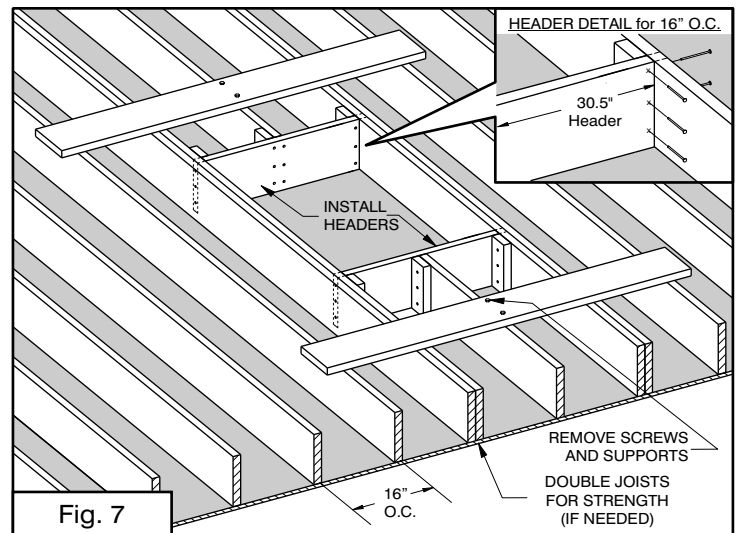

Fig. 7
**For joists on 16" centers:** Cut the headers 30.5" long (Fig. 7 & inset) and install them as shown.
Depending on the size and span of your joists, you may need to double the joists on either side of the opening for added strength as shown in Fig. 7. The sheet rock can now be cut flush with the opening. Install decking flush to the inside edge of the opening (not illustrated). Note that decking and sheet rock must not extend into the opening (see Figs. 2a & 2c on pg. 5).